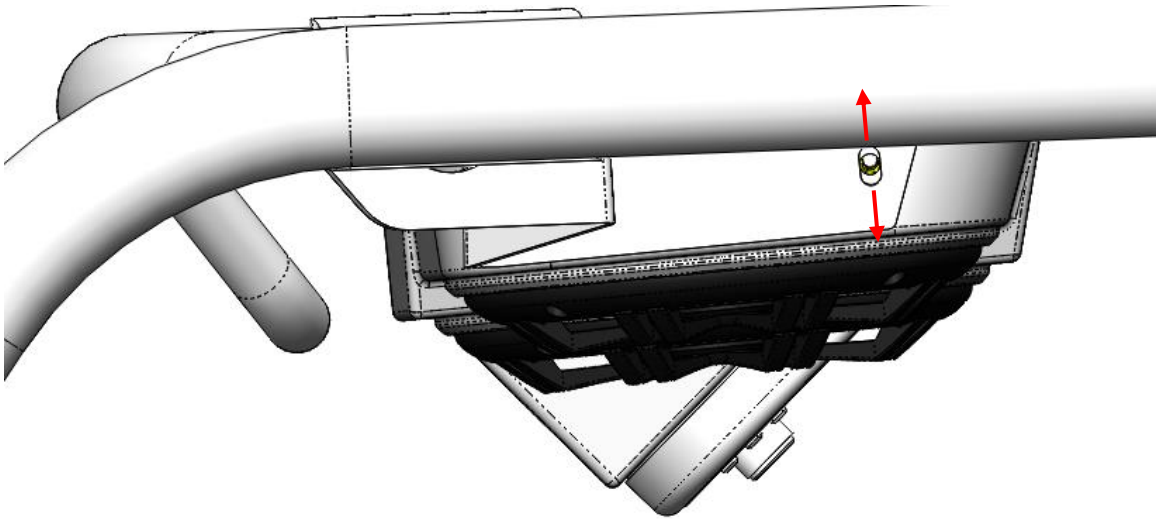

Figure 9: Up-down positioning of the Audio Mini.
6. Tighten the 4 mounting bracket bolts after achieving the desired up-down position relative to the brackets. Slots in the brackets allow up-down movement. See Figure 9.